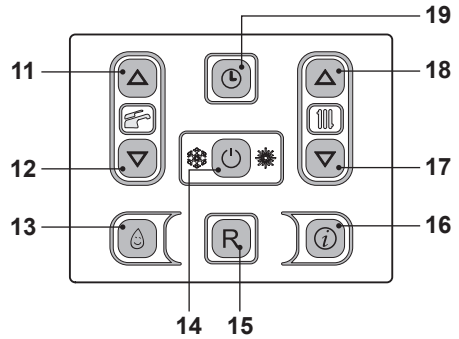
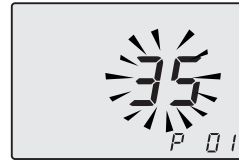

Fig. 7.50
Fig. 7.51
- Enter the "programming mode" by pressing keys 14 - 17 - 18 (Fig. 7.50) for 10 seconds at the same time until the letters **P01** are displayed on the LCD display and the value of the parameter (36=Activ A Plus 30C or 37=Activ A Plus 35C), indicating that "parameter 01" (Fig. 7.51) has been activated.
- Press keys 11 or 12 to change the value and confirm the value of the parameter with key 14.
- Press keys 17 or 18 (Fig. 7.50) to exit without changing the value.